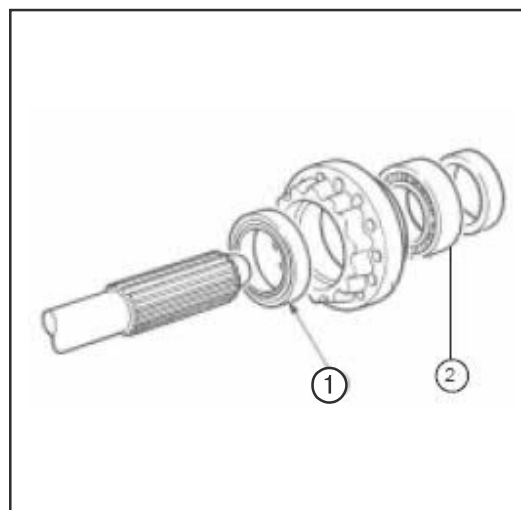

Fig. 6
4. Remove and discard the hub oil seal. (Item 1 in Fig 6).
6. Coat the oil seal with loctite and press into the retainer hub up to the shoulder oil seal lip should face bearing. Fit a new cup if necessary (Item 2 in Fig 6).